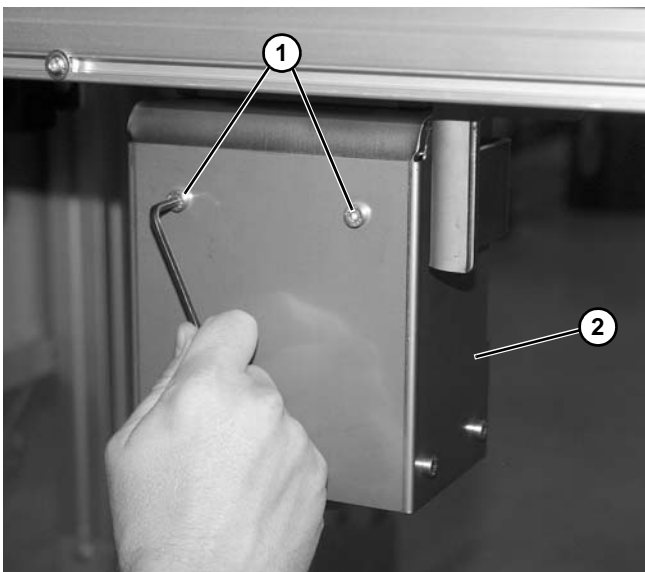

Figure 118
1. Remove two screws (Figure 118, item 1) that secure the front of cylinder guard.
2. Lower cylinder guard (Figure 118, item 2) from around cylinder assembly.